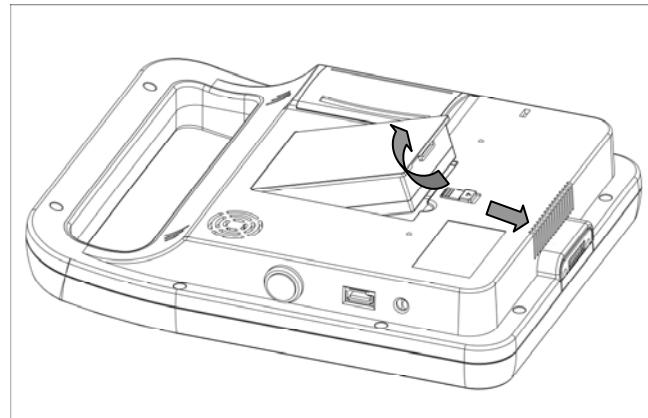

Figure 4-4 PadScan Z5 Battery Removal Diagram
**Battery removal:** Move the locking key of the battery following the direction of arrow, pull out of the battery at the side seam between the battery and the equipment. Show as figure 4-4.